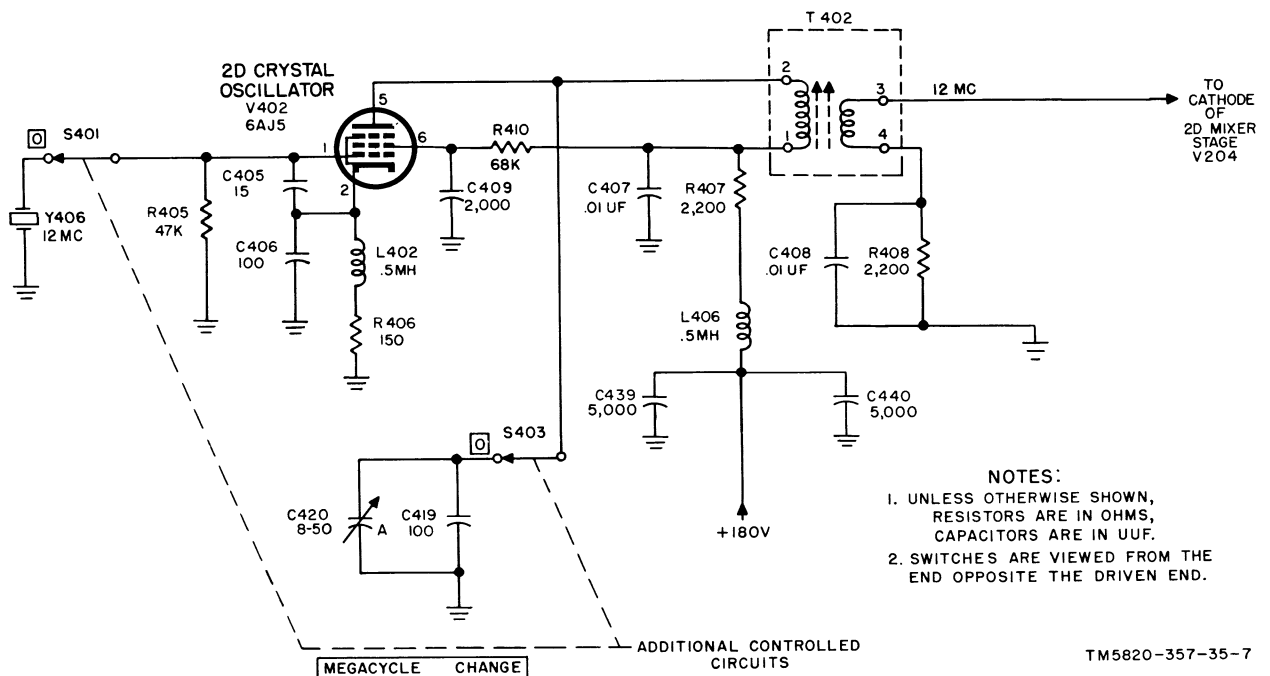

Figure 3. Second crystal oscillator, simplified schematic diagram.
10. Second Crystal Oscillator V402 (fig. 3)